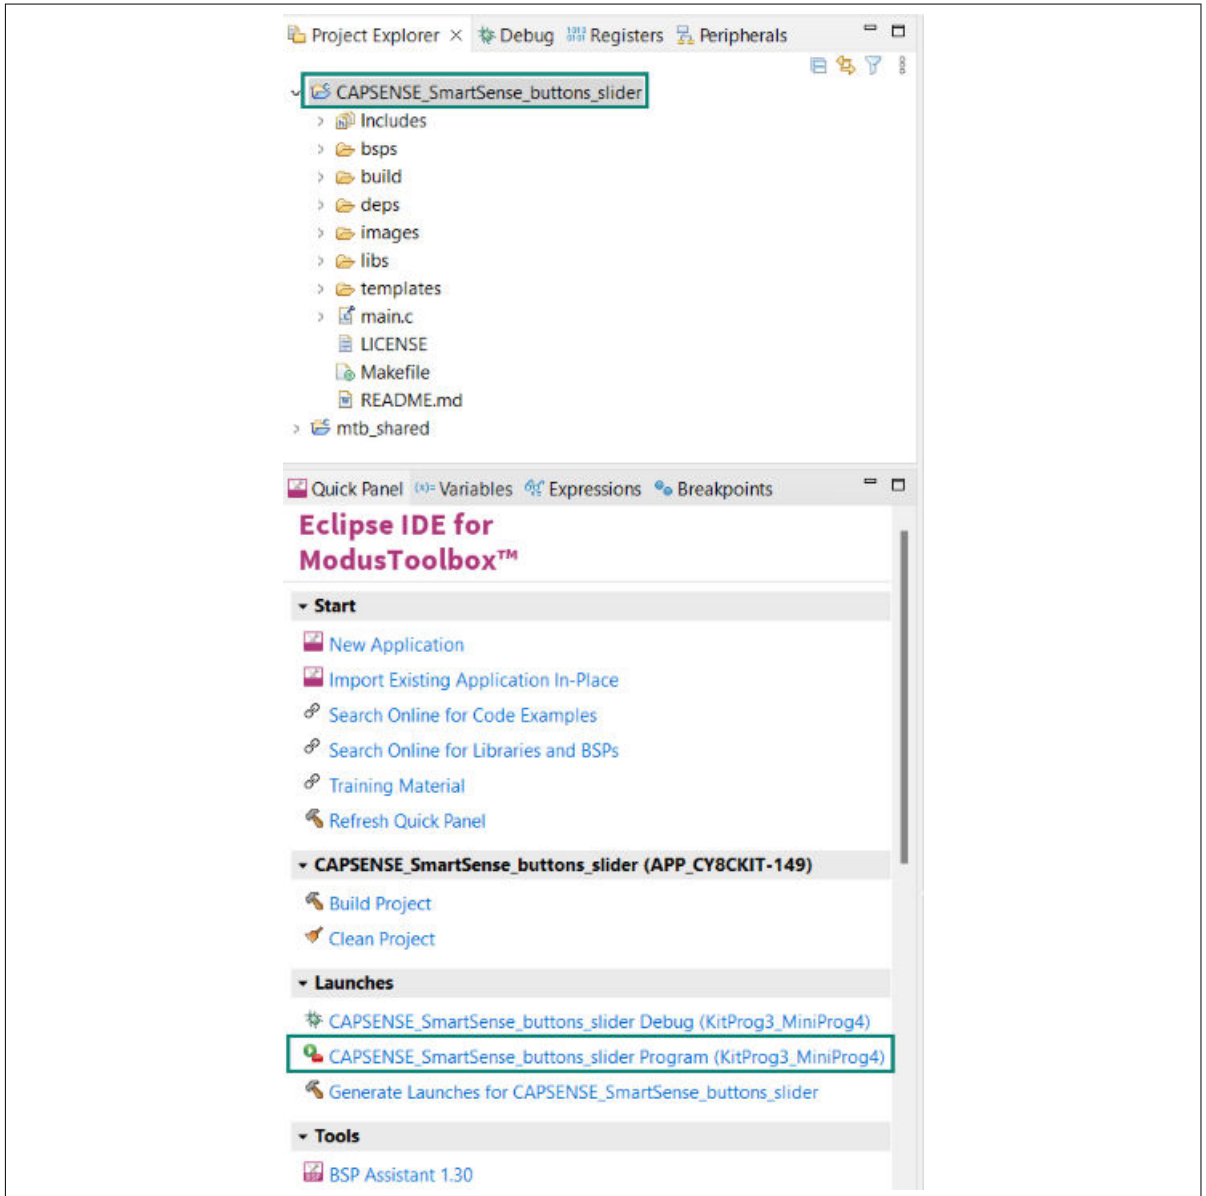

Figure 14 Building and programming the code example
- b. In the **Quick Panel** tab, scroll to the **Launches** section, and click the **<App_Name> Program (KitProg3_MiniProg4)** configuration, as shown in Figure 14